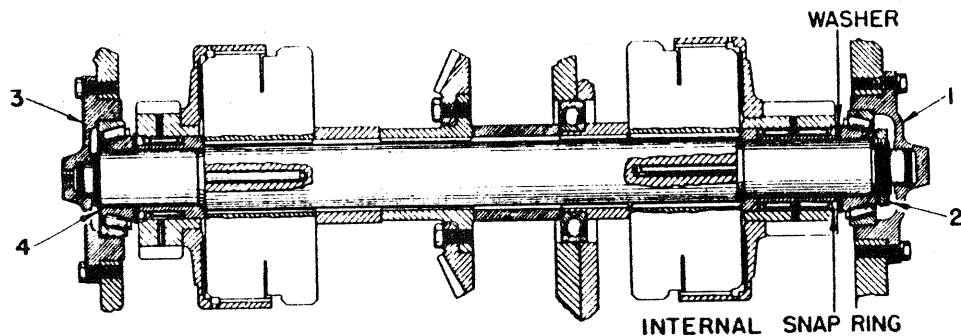

Figure 7
2. Disconnect the hydraulic line to bearing retainer (3) Figure 7.
5. Remove the R. H. bearing retainer (1), Figure 7.
6. Loosen bearing nut (2) enough to permit removal of snap ring (4).
7. Replace bearing retainers (1) and (3), Figure 7, for support. (If drum is to be removed, remove L. H. drum shaft nut.)
8. Turn winch with R. H. side up and remove retainer (1).
9. Remove bearing nut (2) Figure 7.